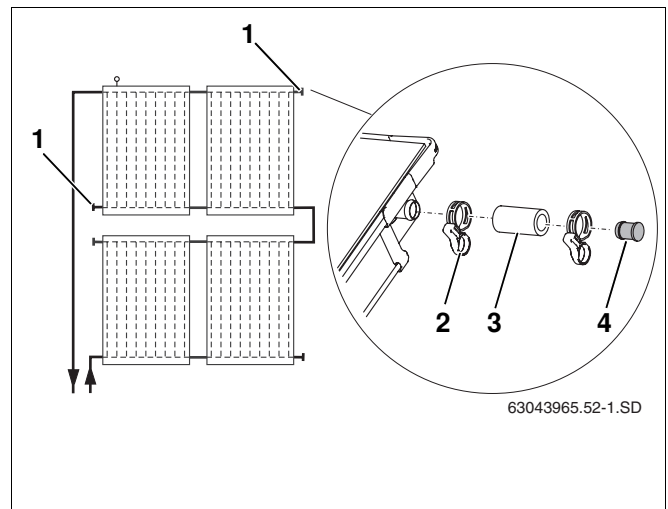

Fig. 59 Fitting the preassembled dummy plugs
Use the dummy plugs to close up any collector connections not in use (Fig. 59, **Item 1**).
- Place 55 mm solar hoses (Fig. 59, **Item 3**) together with the preassembled dummy plugs onto the two free connections.